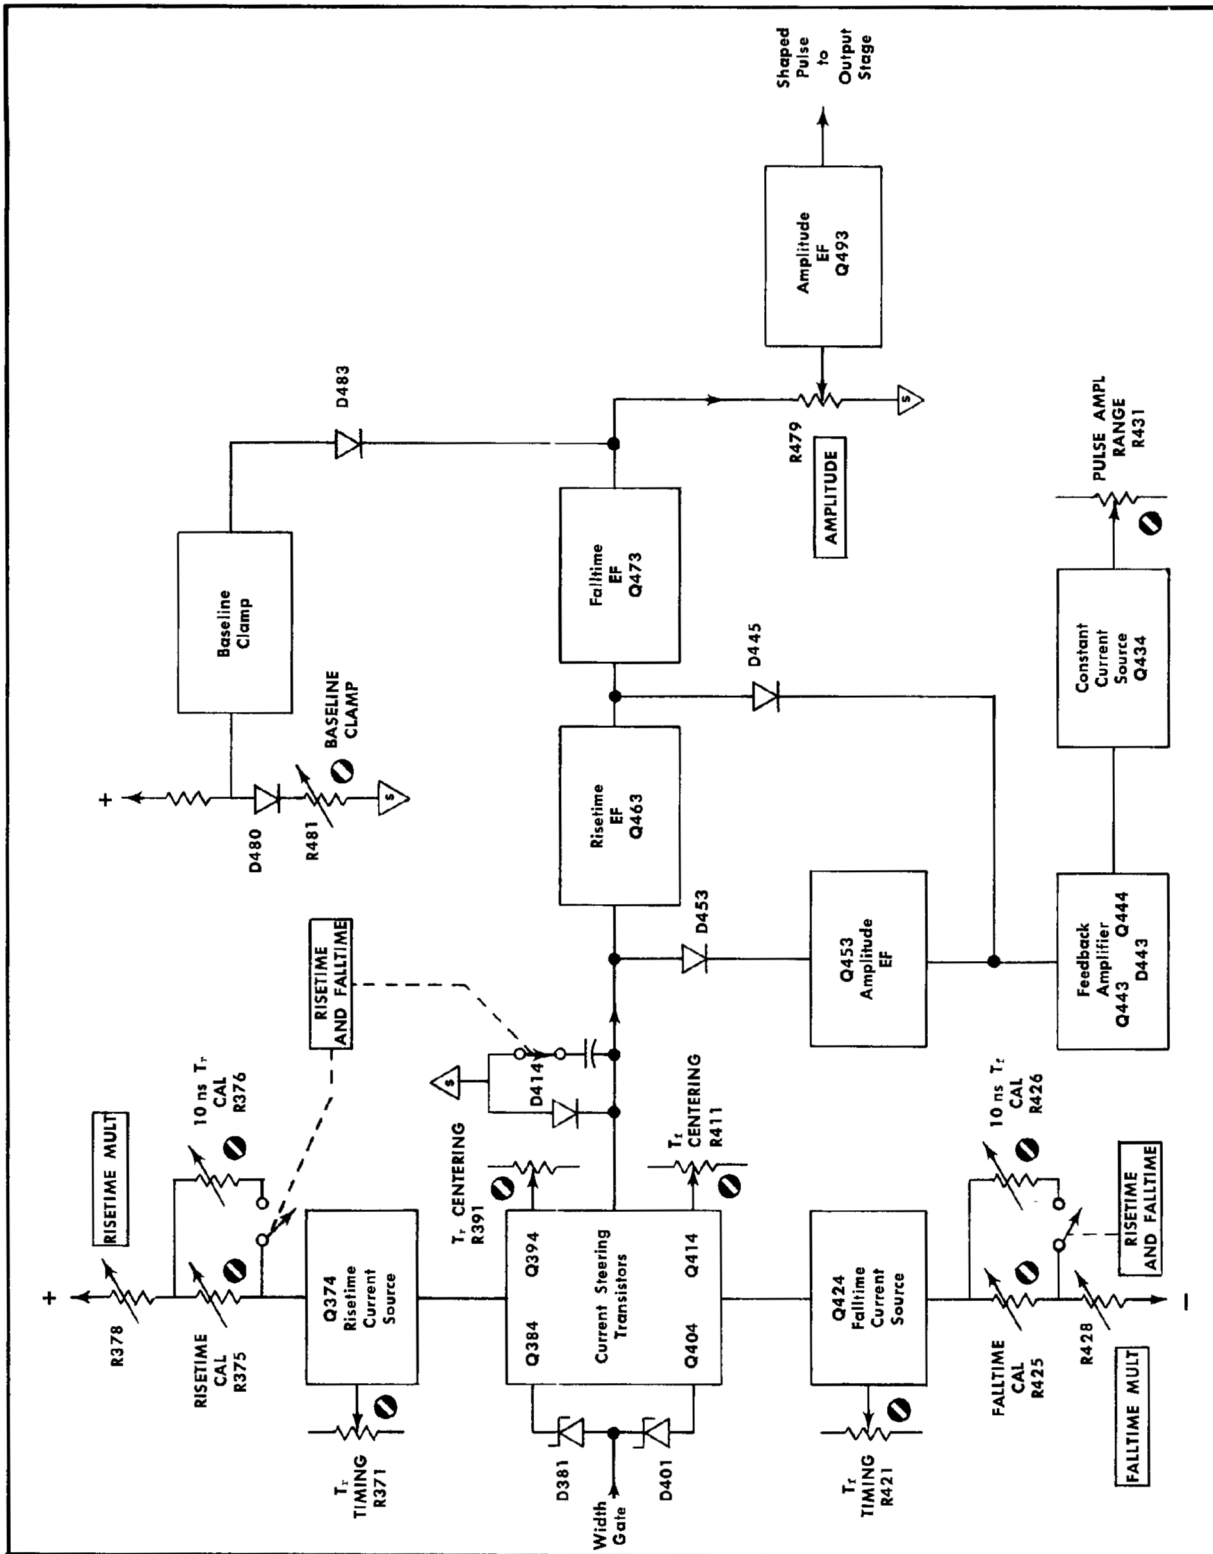

Fig. 3-6. Block diagram of the pulse shaper circuit.
**Pulse Shaper.** It is in the pulse shaper circuit where the shape of the output pulse is formed. The width and period of the pulse are determined by the preceding circuitry, but its risetime, falltime and amplitude are formed by the pulse shaper. This circuit can be divided into two sections: the risetime-falltime generator and the amplitude clamp. The risetime-falltime generator consists of current steering transistors Q384, Q394, Q404 and Q414 (see Fig. 3-6) current sources Q374 and Q424, and the timing capacitors switched into the circuit by the RISETIME AND FALLTIME switch. The amplitude section consists of voltage reference Q434, unity-gain feedback amplifier Q443 and Q444, emitter followers Q453, Q463 and Q473, amplitude clamp D445 and baseline clamp Q483. The pulse shaper circuit shapes a pulse by charging a timing capacitor with constant current until the pulse voltage reaches the clamp voltage, and then discharging the capacitor with constant current until the voltage returns to the baseline. This process forms the voltage rise, amplitude and fall of the pulse.